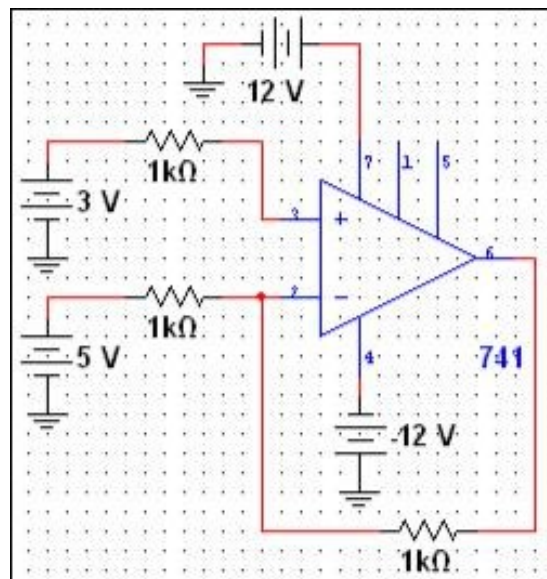

Figure 7.3: Exercise 1
- A differential amplifier is shown in figure 7.3. This amplifier is a combination of the two latter configurations.